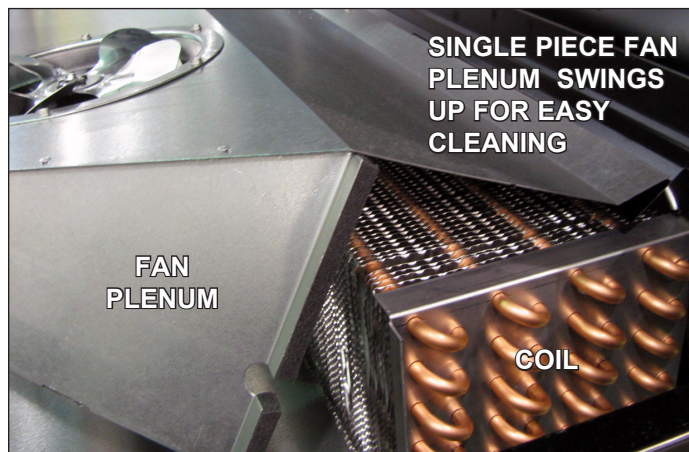

Fig. 24 Single-piece fan plenum and coil cover
- Lift the fan plenum to gain access to the coil for cleaning and maintenance (Fig. 24).